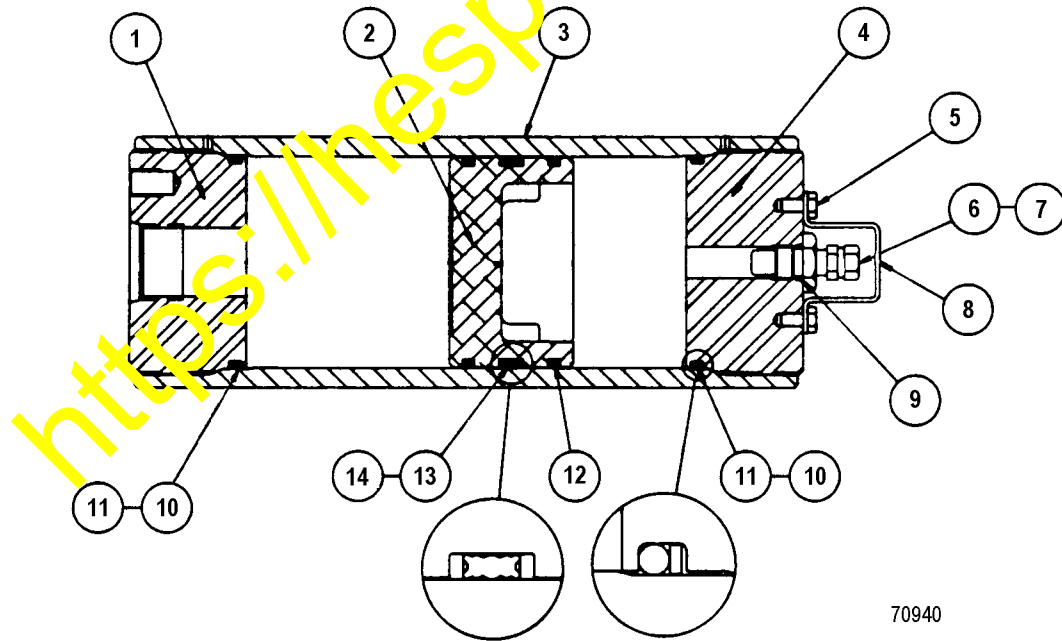
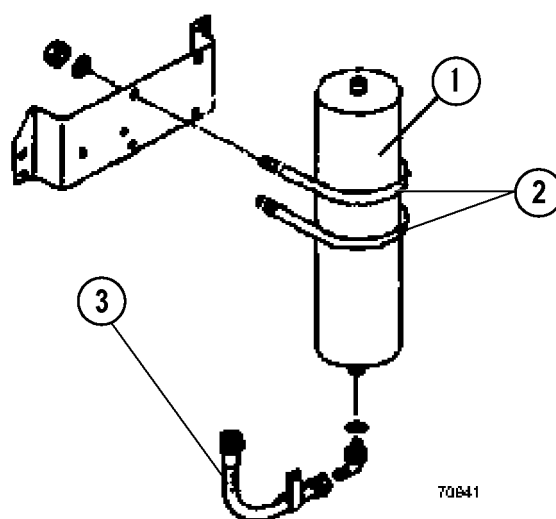

FIGURE 2. ACCUMULATOR CROSS SECTION VIEW
FIGURE 3. ACCUMULATOR MOUNTING
2. Remove gas valve guard (8, Figure 2) and valve cap (7) from the accumulator.
4. Attach the charging assembly swivel nut to gas valve (6) and tighten to **1.15 - 1.70 kgm (11 -17 Nm)**.
1. Remove gas valve guard (8, Figure 2) and valve cap (7) from the accumulator.
4. Attach the swivel nut to gas valve (6) and tighten to **1.15 - 1.70 kNm (11 - 17 Nm)**.
6. Remove hydraulic hose (3, Figure 3) from the bottom of the accumulator. Plug all hoses and openings to prevent possible contamination of the system.
2. Install new V-O-ring (13 - Figure 2) and backup washers (14) onto piston (2).
3. Install wear rings (12) onto both ends of the piston
4. Insert the piston slowly and squarely into the accumulator housing. The hollow side of the piston should face the gas end of the accumulator as shown in Figure 2. Use caution when inserting the piston. Do not allow any of the rings to drag on the threads. The V-O-ring will compress as it is pushed through the tapered section of the housing, however, if inserted improperly, the seal may be damaged. Always apply pressure to the piston while installing it to prevent bouncing and damage to the V-O-ring. Once the piston has been started and the V-O-ring has surpassed the tapered section of the housing, a wood block and a hammer may be used to lightly tap the piston further into the housing. The piston should be seated approximately 5 cm (2 in.) below the start of the honed portion of the bore. Once the piston is in place, cover the opening to prevent dirt intrusion.
5. Install backup washers (10) onto the end caps and then install O-rings (11). The O-rings should be positioned so they face the piston.
7. Install new O-ring (9) onto gas valve (6), and install the gas valve.
2. Lift accumulator (1, Figure 3) into place on the machine.
3. Install mounting clips (2) onto the accumulator.
4. Attach hydraulic hose (3).